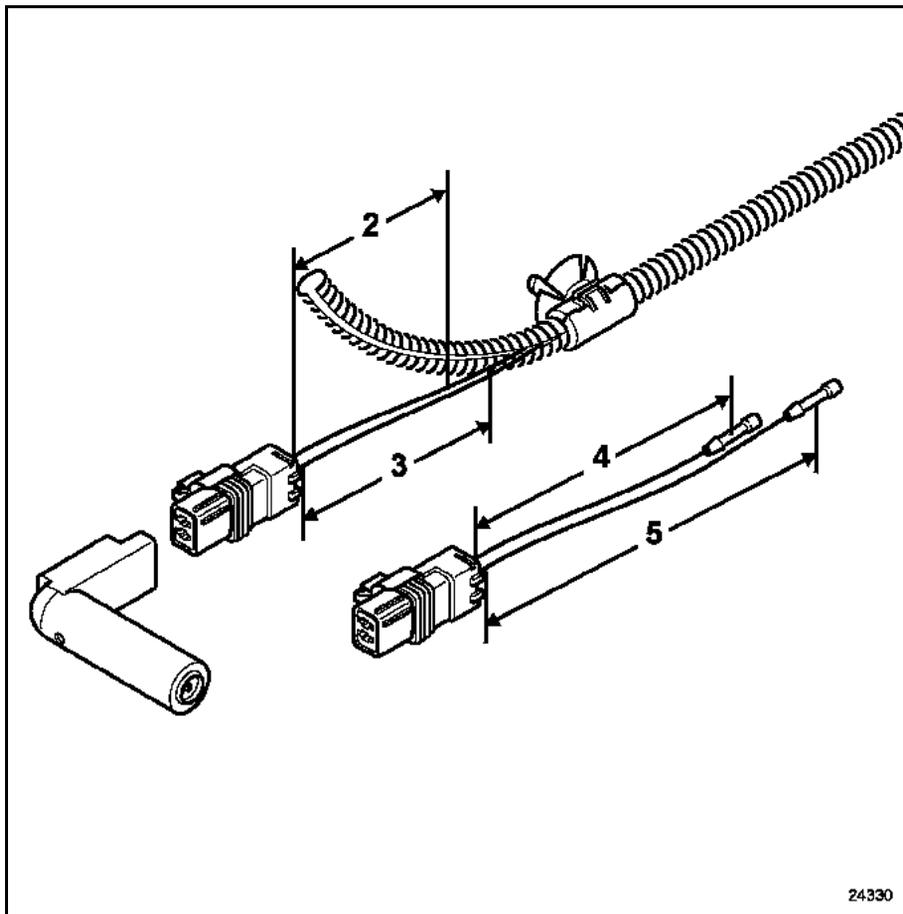

Fig. 2
- Cut the wire of track no. 1 at **120 mm (2) (Fig. 2)** from the rear of the TDC sensor connector.
- Cut the wire of track no. 2 at **160 mm (3) (Fig. 2)** from the rear of the TDC sensor connector.